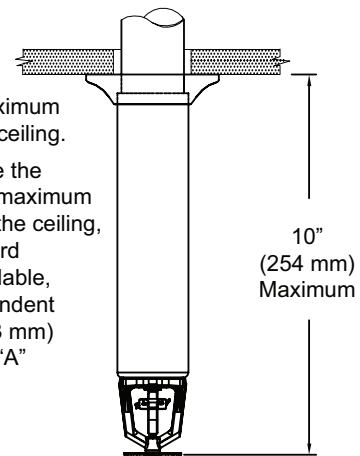

Figure 2: Adjustable Standard Dry Pendent Sprinkler
Order Dry Pendent Sprinklers by first adding the appropriate suffix for the sprinkler finish, the appropriate suffix for the temperature rating, and then the suffix for the length ("A" dimension) to sprinkler base part number. Order in a specific length noted as the "A" dimension (see Figures 2 through 4). The "A" dimension is the distance from the face of the fitting (tee) to the desired finished surface of the ceiling.
**The minimum required barrel length is not the same as the "A" dimension. Refer to Figures 2 - 4 for the "A" dimension.